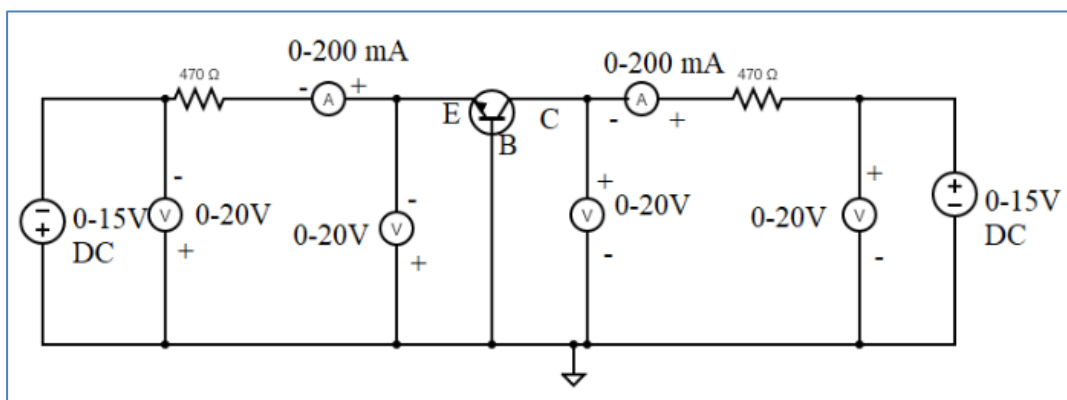

Fig 13 Circuit Diagram for transistor as common base configuration
4.2 Verification of input and output characteristics of CE Configuration using hardware shown in Fig 13 and draw the Waveforms